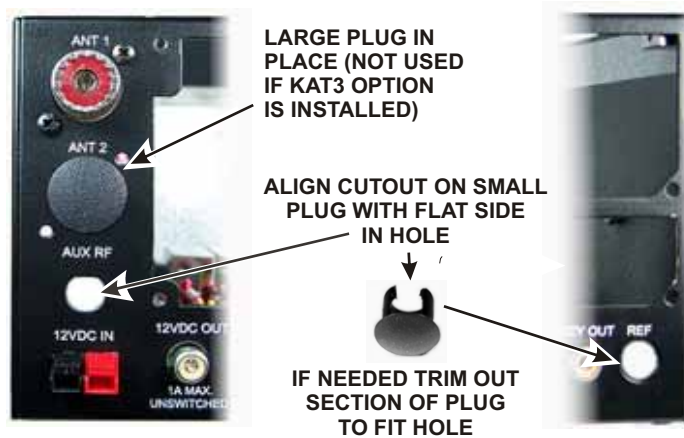

Figure 27. Installing Rear Panel Hole Plugs.
If you installed the KANT3 board, the hole for the ANT2 jack is not used. Insert the larger of the hole plugs in the opening until it clicks in place (see Figure 27).
□ Insert the smaller hole plugs in the AUX RF connector hole at the bottom left and the REF connector at the bottom right. Align the open side of the plug with the flat side of the hole as shown in Figure 27. If the plug does not have a cutout, use your diagonal cutters to clip out a section of the plug so it will fit into the hole.